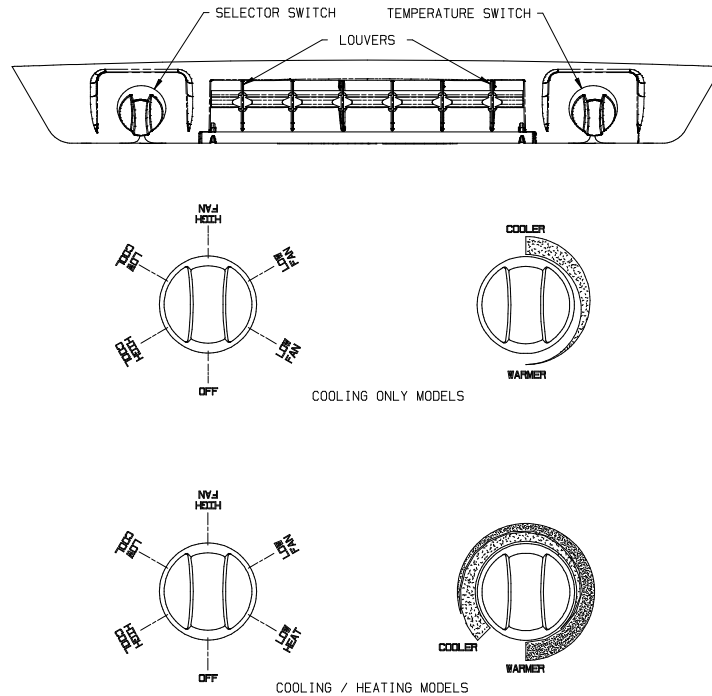

FIGURE 1
A. The Selector Switch – The selector switch determines which mode of operation the air conditioner will be in. By rotating the selector switch, the operator can obtain any system function desired. System functions vary depending upon options of both the roof top unit and ceiling assembly. Figure 1 shows selector switch location and lists all available functions by model.
For “Heat/Cool models, the thermostat also controls the “ON” and “OFF” temperature settings of the heater assembly (See Figure 1).
I. For Cooling (Refer to Figure 1, page 3).
IV. For Heating (“Elect-A-Heat” Ceiling Assembly Model Only) Refer to Figure 1, page 3.
V. For Air Circulation Only (Refer to Figure 1, page 3).